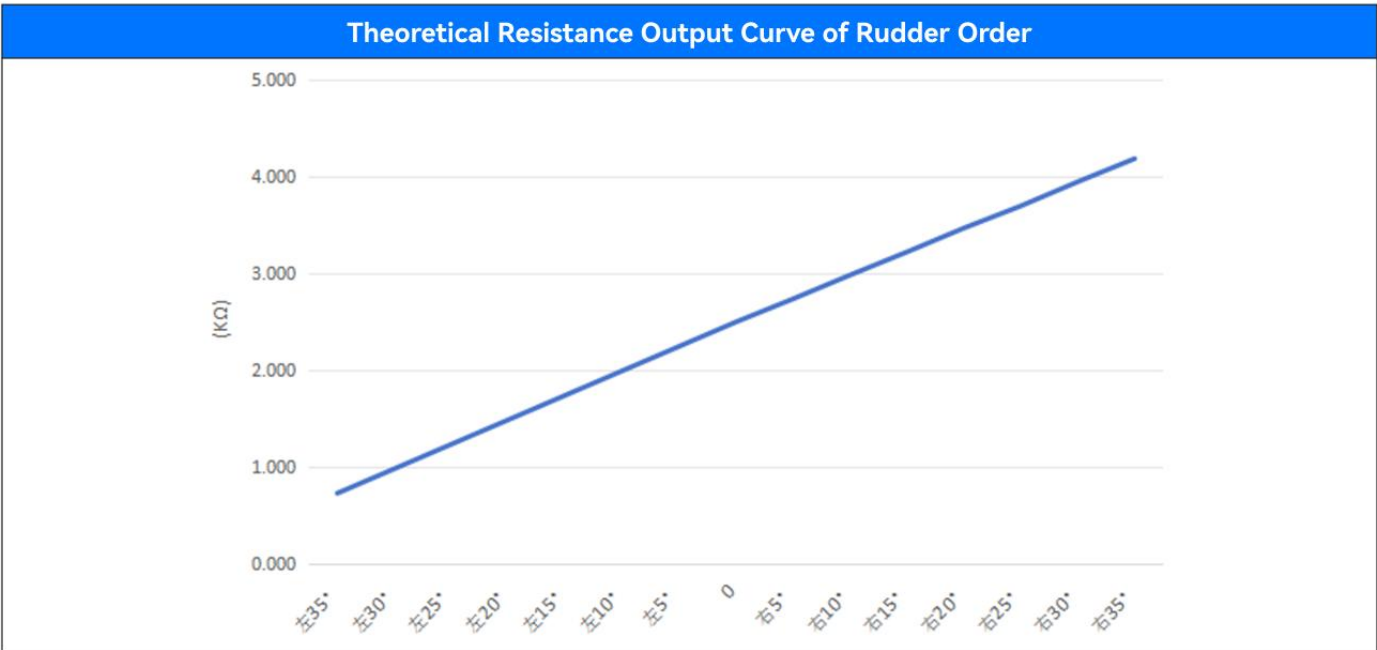

Figure 2.1
5. Output mode: direct linear output via potentiometer, linearly correlated with scale value. The theoretical output is shown in Figure 2.1, and the actual output curve refers to the factory test report of the product.